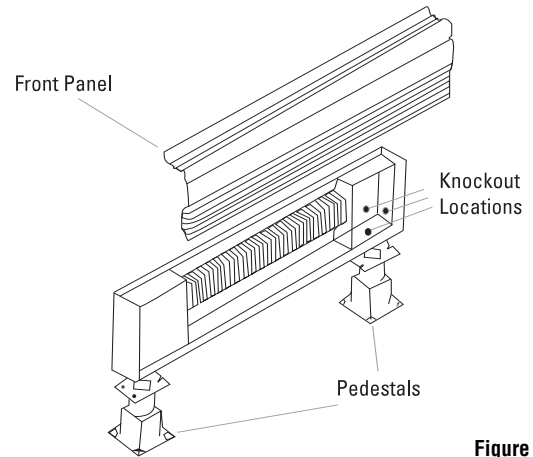

Figure 2
2. Remove heater front cover by lifting top rear edge to unsnap cover from back plate (store cover in safe location to avoid damage to the finish). (See Figure 2).